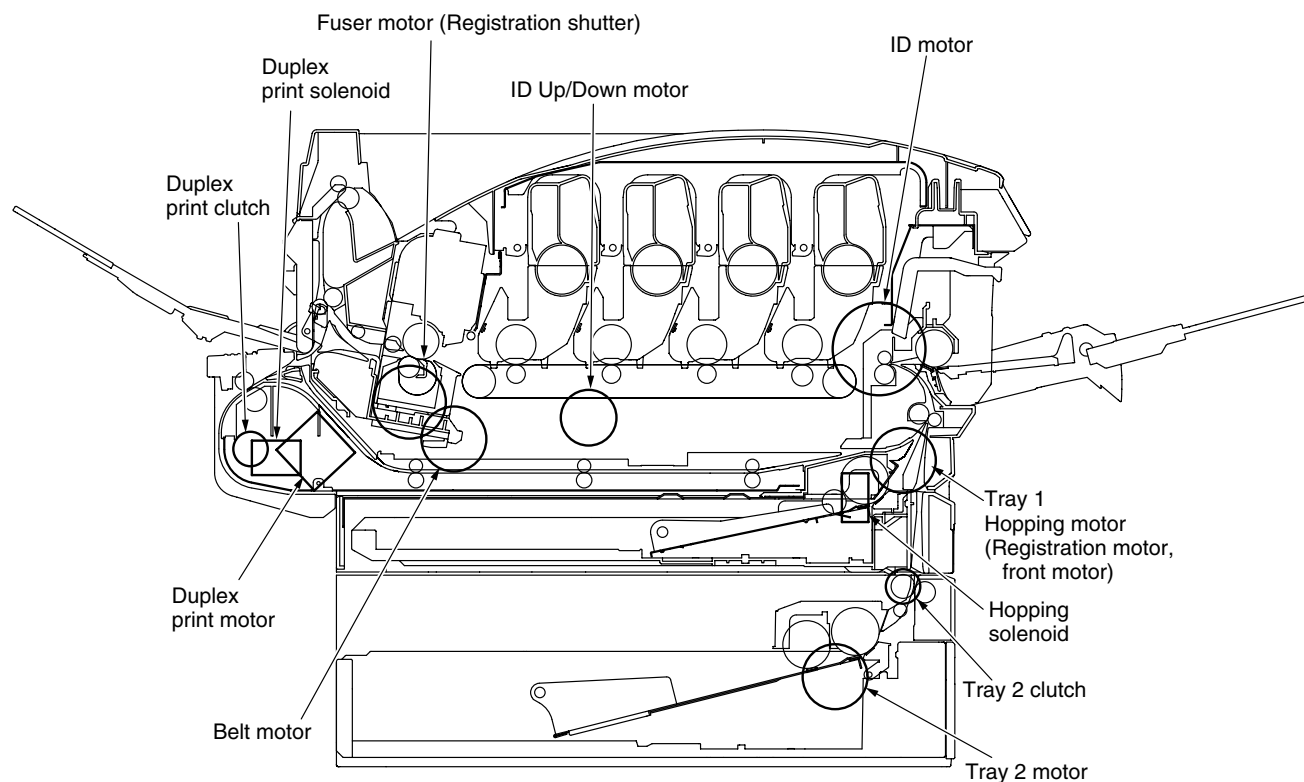

Figure 5-2
3. Pressing the ENTER key initiates the test, causing the unit name to start blinking, and the corresponding unit is driven for ten seconds (See Figure 5-2).